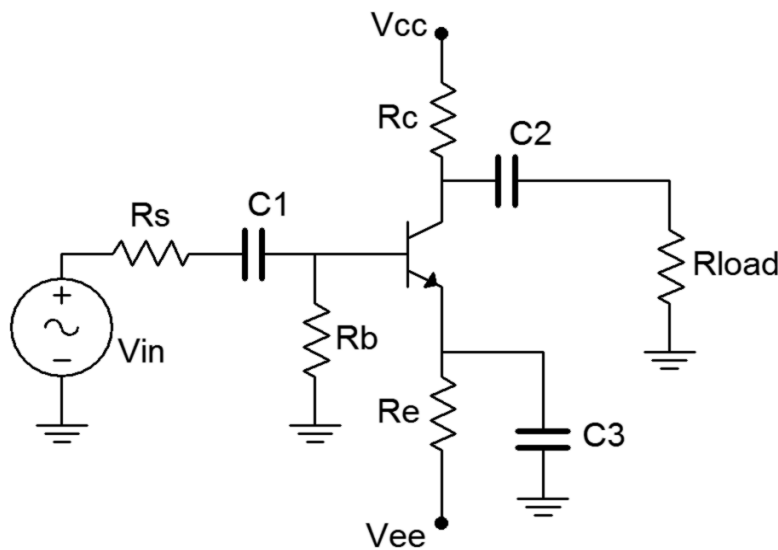

Figure 1
1. The circuit of Figure 1 is the same as the one used in the Common Emitter Amplifier exercise. The values used were $V_{cc} = 15$ volts, $V_{ee} = -12$ volts, $R_s = 10\text{ k}\Omega$, $R_b = 33\text{ k}\Omega$, $R_e = 22\text{ k}\Omega$, $R_c = 15\text{ k}\Omega$, $R_{load} = 20\text{ k}\Omega$, $C_1 = C_2 = 10\text{ }\mu\text{F}$ and $C_3 = 470\text{ }\mu\text{F}$. It was shown that the amplifier produced considerable voltage at 1 kHz. Build the circuit using these values and verify that it is operating correctly by setting V_{in} to a 40 mV peak-peak sine wave at 1 kHz and measuring V_{out} . Compute the voltage gain and record these two values in Table 1.